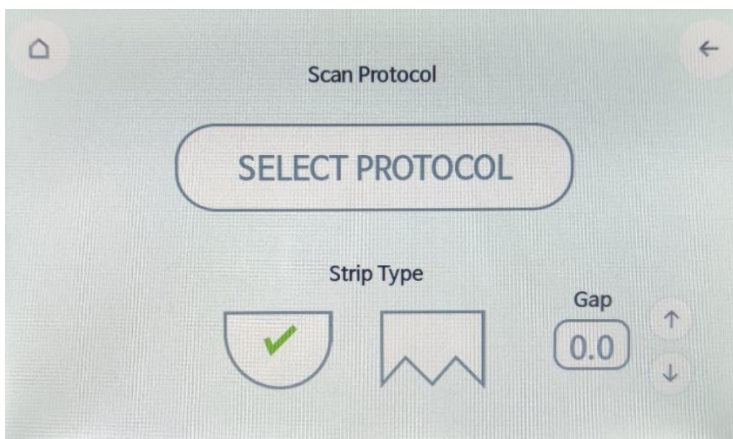

Figure 11. Plate Selection Menu of the IndiMag48s touchscreen interface – for the selection of plasticware used.
2. Select plate type by ensuring the U-well strip type is selected. Do not adjust the Gap. Tap 'Select Protocol' to open Protocol Selection Menu. See figure 11 below for details.